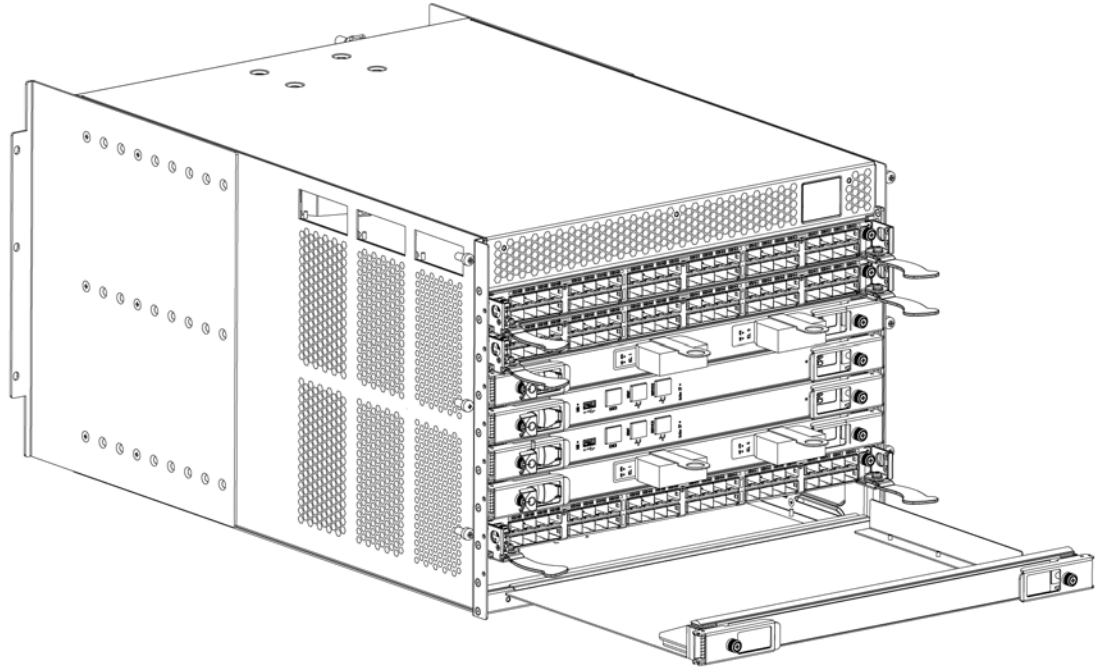

FIGURE 22 RRP: Blade filler panel
3. Pull the filler panel out of the chassis (Figure 22).
1. Orient the filler panel (Figure 22).